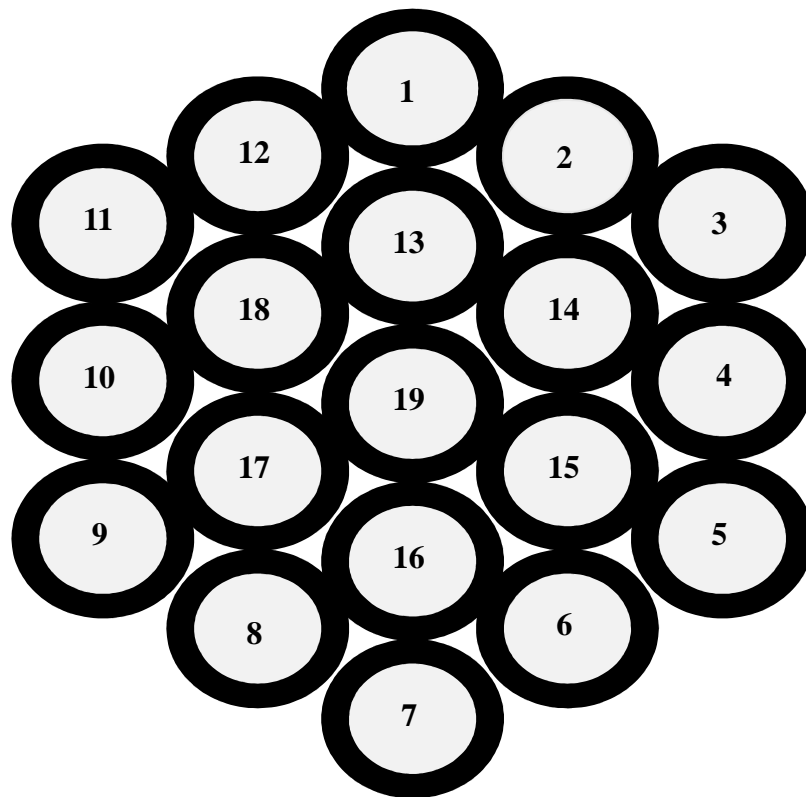

Figure 10
10.1 See Fig. 10 for the tube orientation of a 19-tube cable.